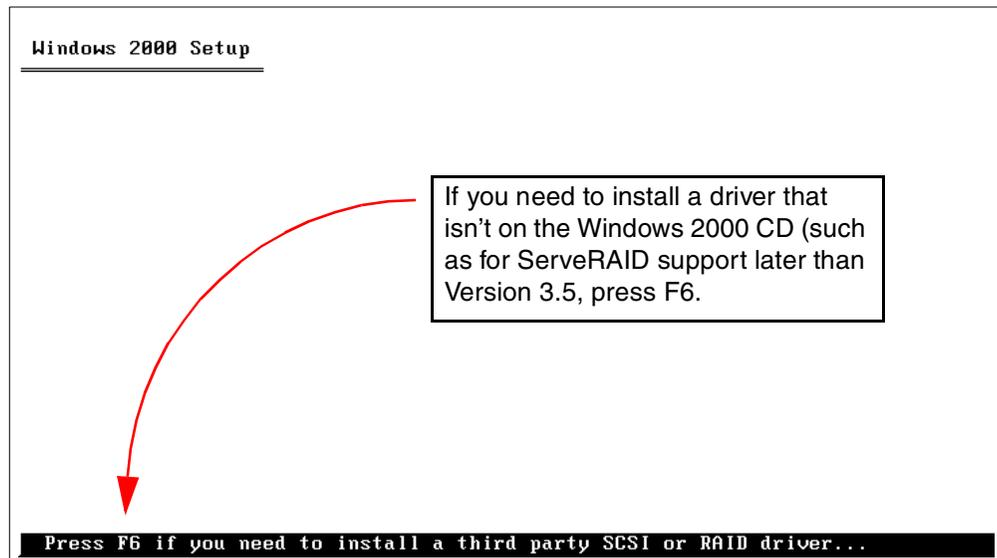

Figure 50. Pressing F6 to install third party drivers
3. You will then see Figure 50 on page 75.
If you do need to load a storage device driver to correctly access the boot device, press F6 as prompted in Figure 50.